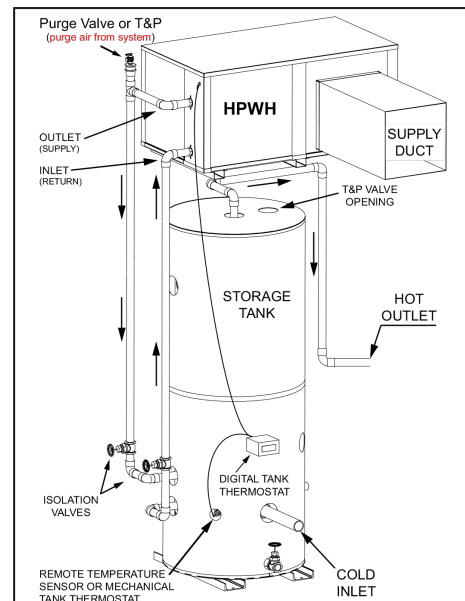
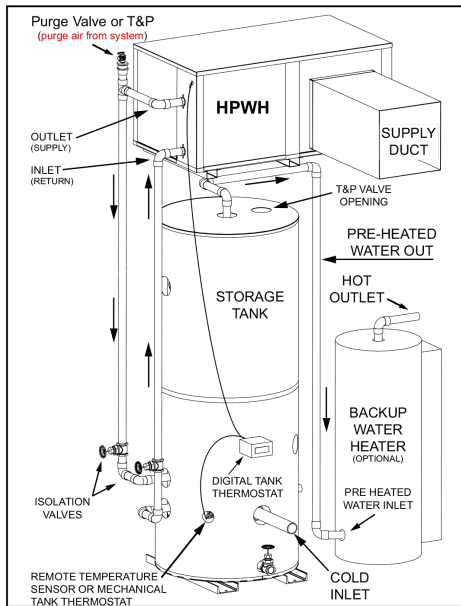

FIGURE 7
FIGURE 8
Water piping must be installed in accordance with the instructions in this manual and all local plumbing codes having jurisdiction. See Figure 7 and Figure 8 and the Piping Diagrams on page 27 as a reference for these instructions.
4. The cold water supply must be connected directly to the storage tank at a low connection port on the storage tank on single tank and two tank preheat piping configurations for optimal efficiency. See Figure 7 and Figure 8.
15. When the HPWH unit is installed above the storage tank install a Tee fitting at a high point in the outlet water line leaving the unit. Install a purge valve, or if required by local code, a T&P valve (temperature and pressure relief) in a branch of the Tee fitting that can be used to purge air from the HPWH unit during start up. See Figure 7 and Figure 8.
The HPWH must be plumbed to storage tank. The maximum stored water temperature the HPWH unit can produce in the storage tank is 150°F (66°C). Figure 7 shows a typical storage tank piping configuration. Tank ports must be large enough to handle the peak water flow rates through the water heating system. See Piping Diagrams on page 27 for detailed piping diagrams.
When water temperatures above 150°F (66°C) are required the HPWH and storage tank are piped in series (upstream) with a backup water heater. See Water Temperature on page 9. The backup water heater will raise the temperature of the preheated water to the final system temperature. Figure 8 shows a typical preheat piping configuration.